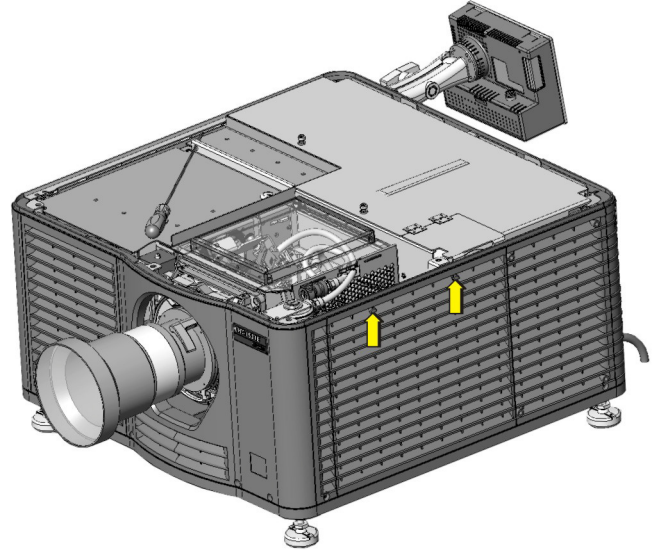

Figure 5-9 Side Skin Service Door
2. Remove the two screws from the inside of the door (**Figure 5-9**).